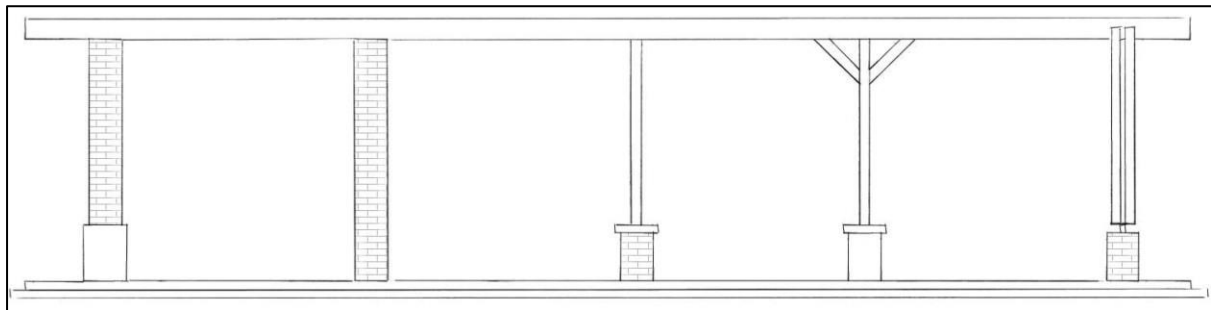

Figure 4: Permitted column designs for verandas, carports and pergolas
- h) Verandas may be constructed in brick, painted timber or painted steel. Fluted or decorative precast columns will not be allowed. See fig. 4.
- d) The supporting posts and roof of the carport will follow the same specifications as for verandahs/pergolas. See Fig. 4.